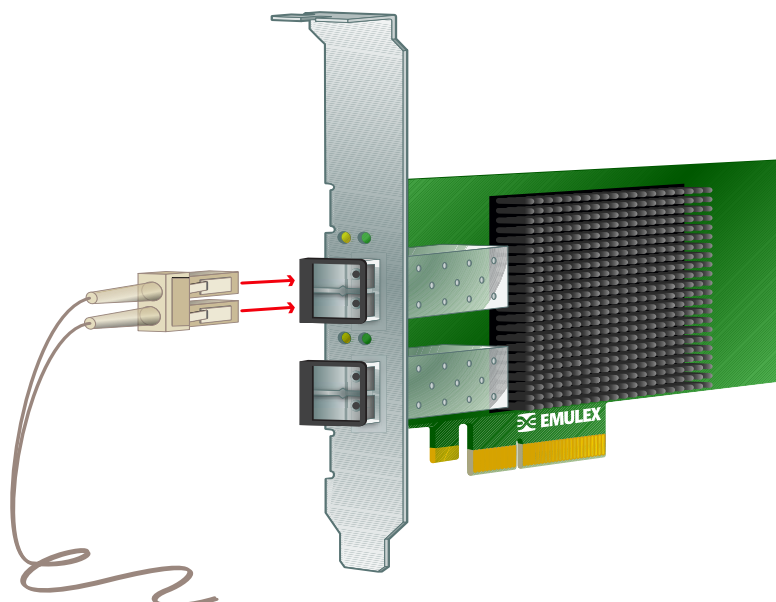

Figure 6: Connecting Fiber Optic Cable
1. Connect a fiber optic cable to an LC connector on the HBA. See figure 6.